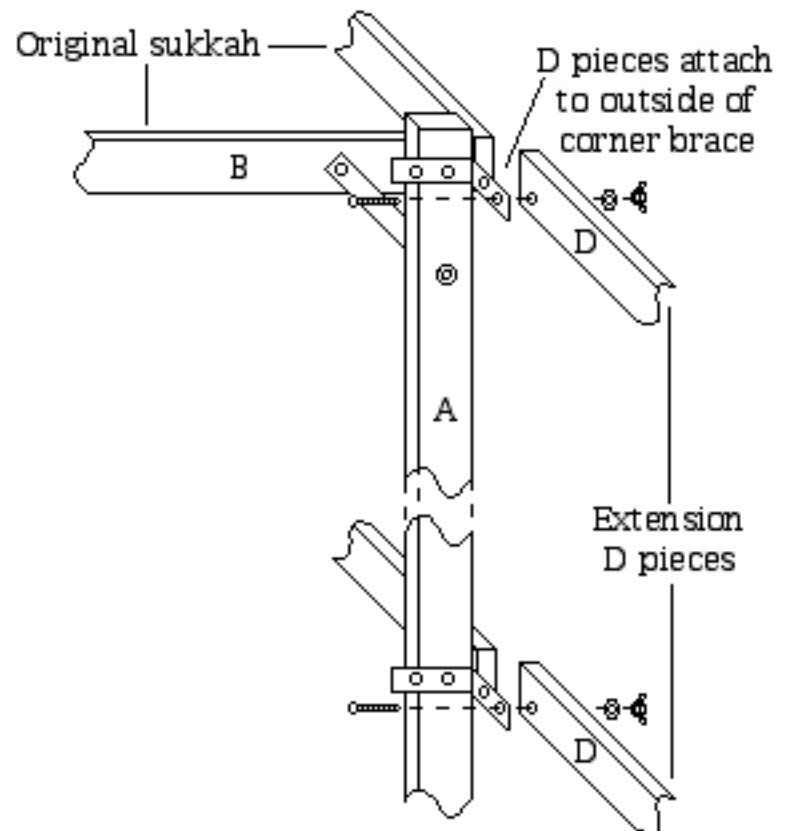

Figure 4
STEP 8: From a step ladder or stool, move each of the 4' 1 x 3 's (from STEP 5) into position and attach to the *outside* of the corner braces (from STEP 6). Use whichever hole of the corner brace seems to give the best fit (this will probably be the far hole). Use one 1 1/2" bolt, one wing nut, and one washer at each location. (Figures 4, 5, and 6)